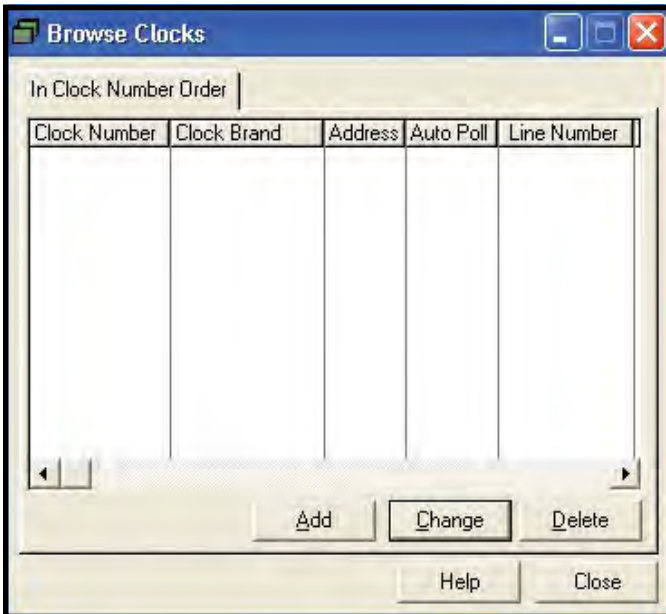

Figure 79. Out-of-the-Box™, Browse Clocks window
- IX. Click the “Add” button in the “Browse Clocks” window (see Figure 79).